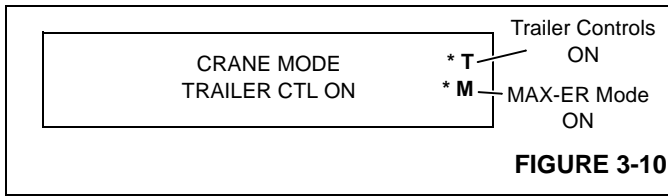

FIGURE 3-10
- Then turn key counterclockwise and release to confirm TRAILER CTL OFF mode. Screen shown in Figure 3-10 appears.